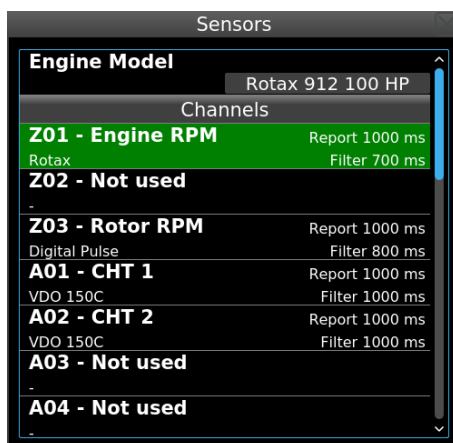

Figure 4: List of channels and sensors for Nesis software 2.9 or later.
4. Once you are in the Service Options, select the **Engine** icon. A list of channels appears. An example is shown on figure 4